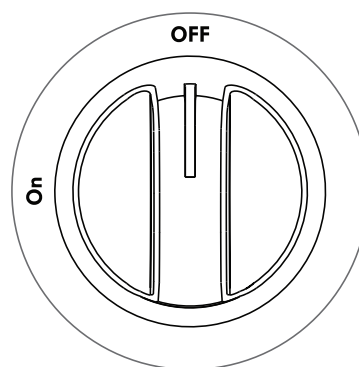

Figure 16: Warm & Ready Zone element control knob
2. Turn the warmer zone control knob clockwise to the **On** position. The warmer zone uses a pre-set temperature designed to keep foods at serving temperatures (Figure 16).